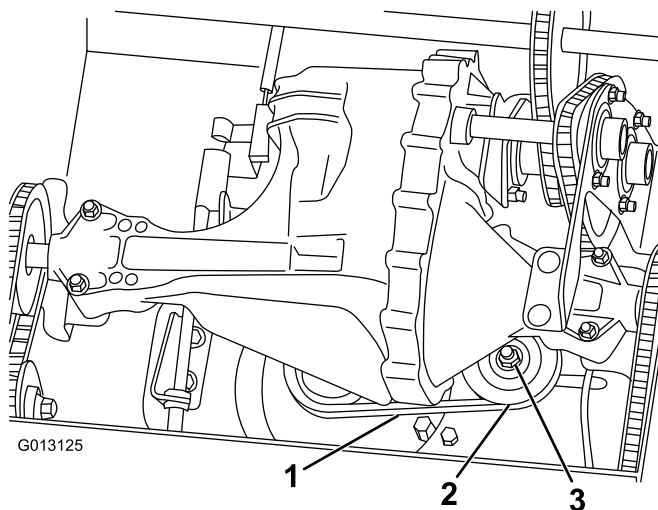

Figure 29
3. Push on a span of the drive belt with 9 kg (20 lb) of force (Figure 29).
- A. Loosen the nut securing the idler pulley (Figure 29).